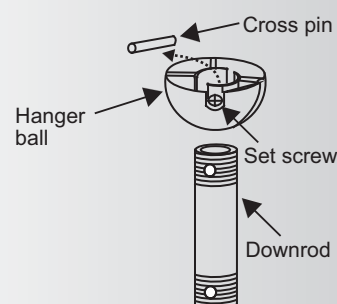

Fig. 7
Step 5. Remove the hanger ball from the downrod assembly by loosening the set screw, removing the cross pin and sliding the ball off the rod. (Fig. 7)